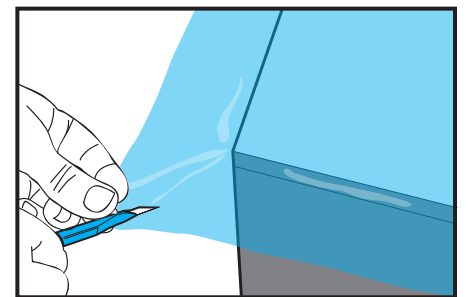

Figure 04
- ▶ Cut the film diagonally, starting from the corner of the table. (FIG. 04)